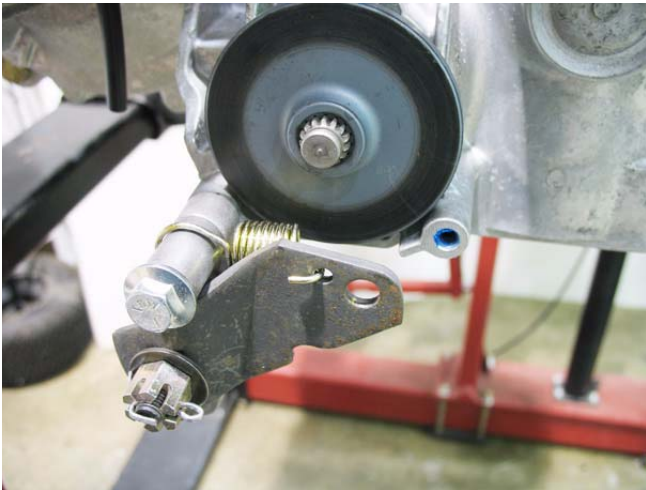

Figure 3.9
5. Remove the front mounting bolt, allowing the caliper to swing down. See Figure 3.9.